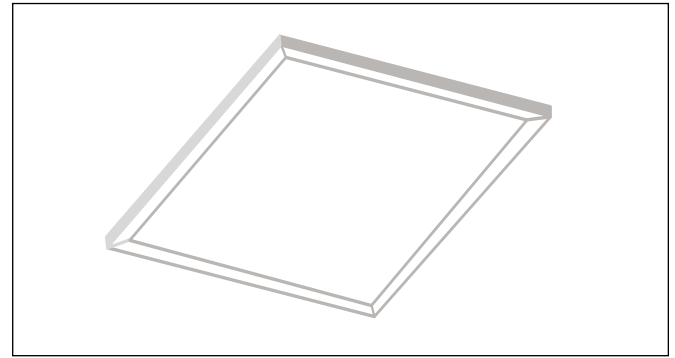

Figure 1
1. Insert the LED panel light into the ceiling according to figures 1 and 2.
As shown in figure 1, select the appropriate size of ceiling; place the panel lights directly onto the t-bar (figure 2).